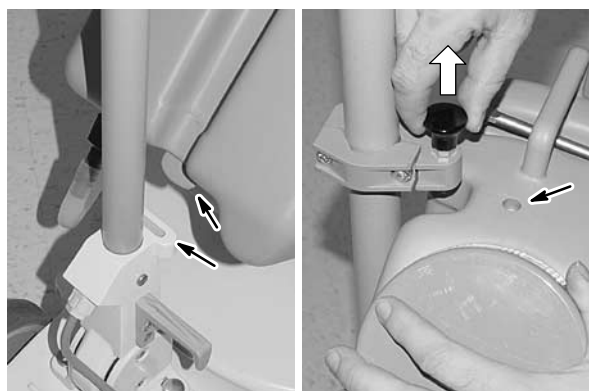

FIG. 3
2. Insert the tab at the bottom of the solution tank into the tank support slot located near the handle base as shown. Secure the top of the tank with the upper support bracket as shown. Then tighten the upper support bracket screws (Figure 3).